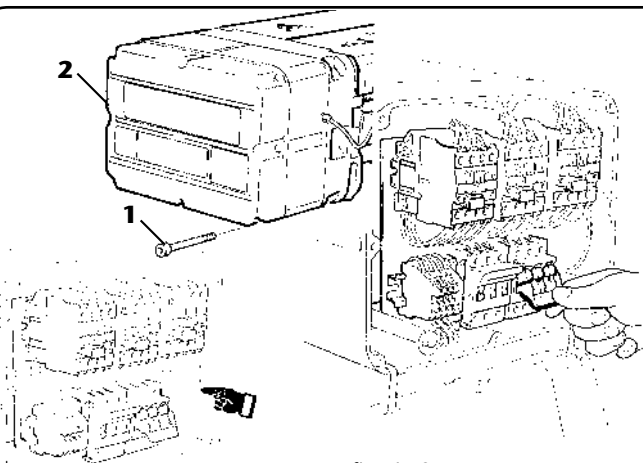

fig. 142a
- To carry out the internal check of the control apparatus, remove the screws -1- from the cover -2- Disactivate the motor fuses (fig. 142A). Remove the screws -3- which fix the panel -4- and take off the panel itself to allow access to the contactors located on the back (fig. 142B)